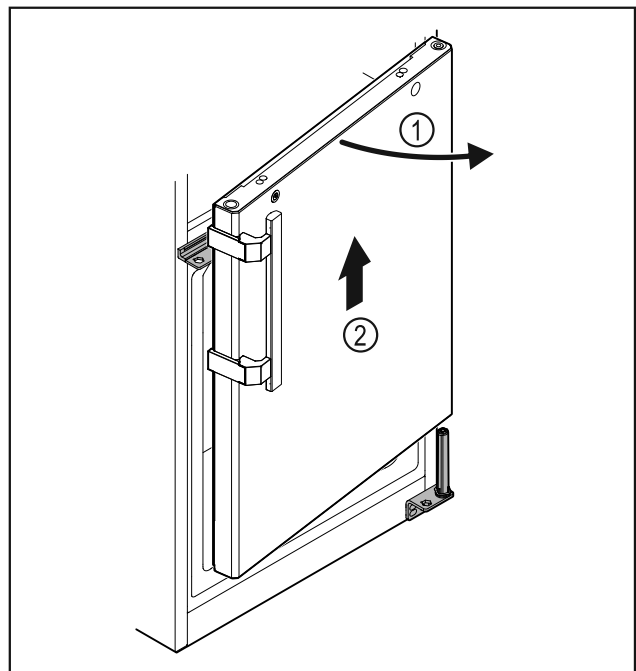

Fig. 35
- ▶ Open the door Fig. 35 (1) slightly, lift it straight up by around 200 mm (7.87 in) and take it off Fig. 35 (2).